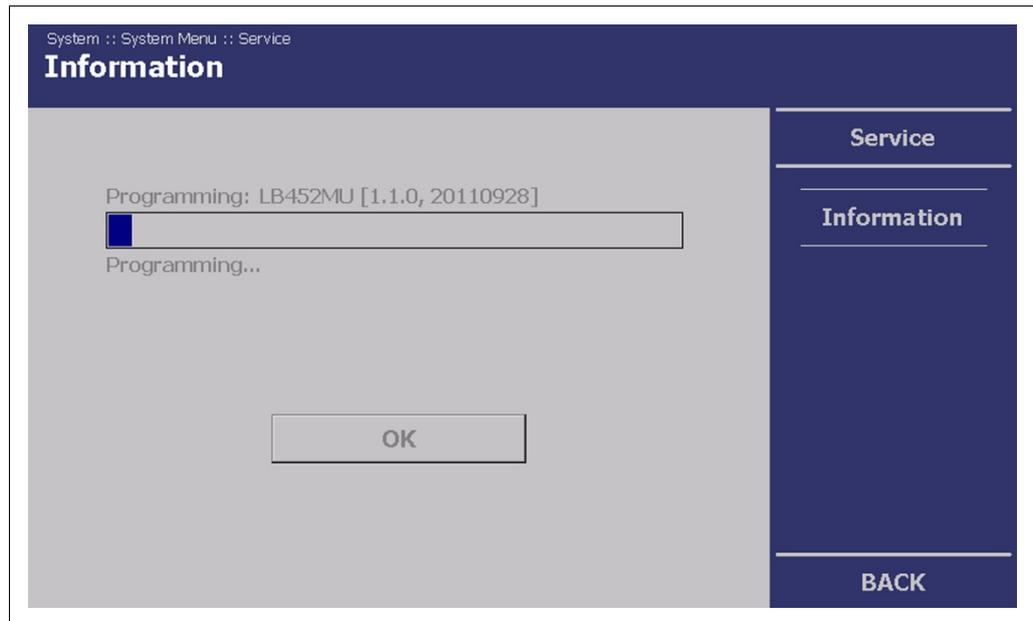

Fig. 45 System Menu, Service - Information (Measurement channels update)
- ▶ The software update is carried out (Fig. 45).